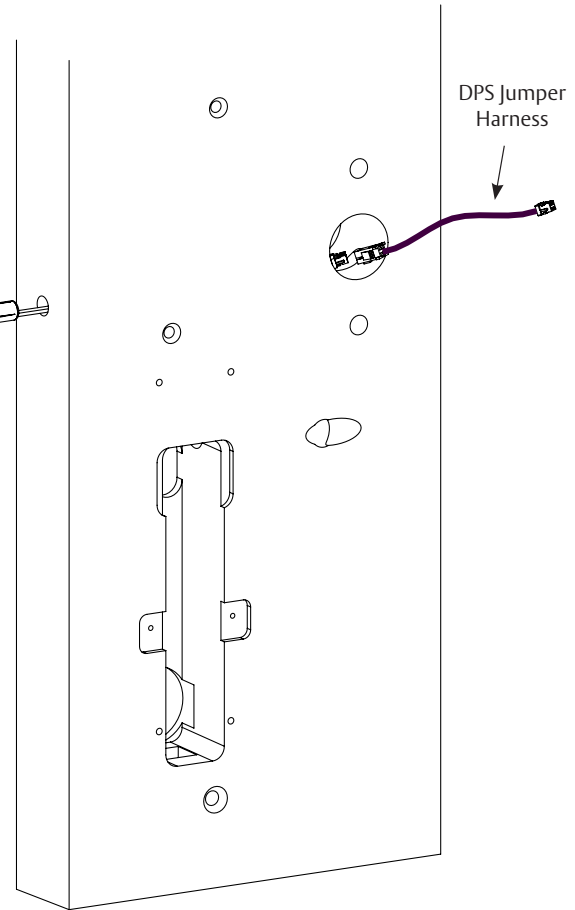

Fig. 3
- Insert connector end of DPS through raceway on latch edge of door. (Fig. 3)
- a. Insert connector end of DPS through raceway on latch edge of door. (Fig. 3)